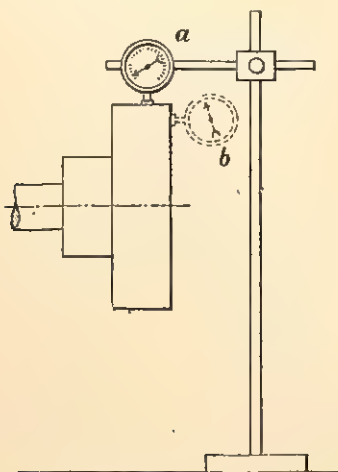
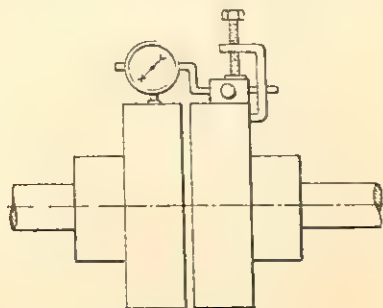

Fig. 3.—Checking truth of single half-coupling with dial indicator. (a) periphery ; (b) face
Fig. 4.—Checking concentricity of two half-couplings with dial indicator
1. Check each half-coupling separately, by mounting the indicator either upon a floor stand, or on a bracket clamped to the machine itself, so that the foot of the indicator touches the periphery of the coupling as shown in fig. 3, or on the other half-coupling (fig. 4). Rotate the machine by hand, and see that the reading is the same all round. Now check the coupling face, in a similar manner. If untrue, the complete shaft and coupling must be trued in a lathe. In the case of a very large machine, it may be possible to improvise a rest to hold a tool or portable grinder, and true up with the machine running.
3. To set the two couplings concentrically, fix a dial indicator to one coupling by a clamp (fig. 4), with its foot